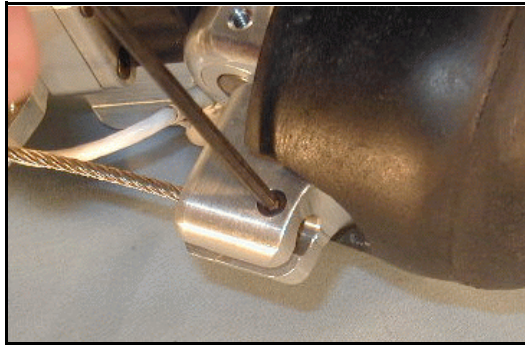

Figure 3.32 - Insert Cable Locking Bolt
29. Allow the ball to move up to the top of the recessed area in the mounting post and secure the cable in place by inserting a #4-40 x 1/2" SHCS {3/32} into the hole on the side of the mounting post, as shown in **Figure 3.32**.